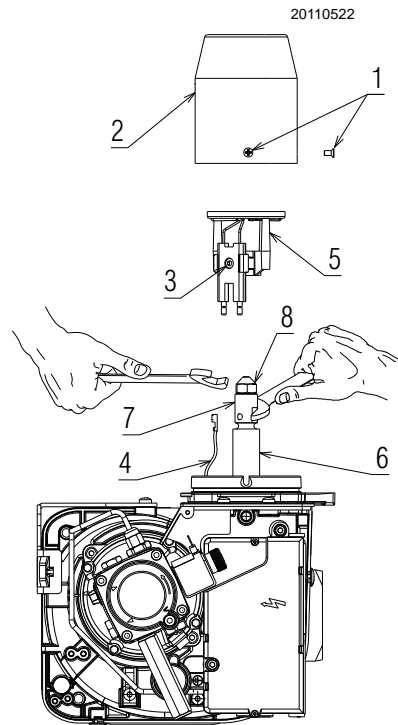

Fig. 15
- Loosen the 3 screws 1)(Fig. 15) from the collar and remove the blast tube 2);